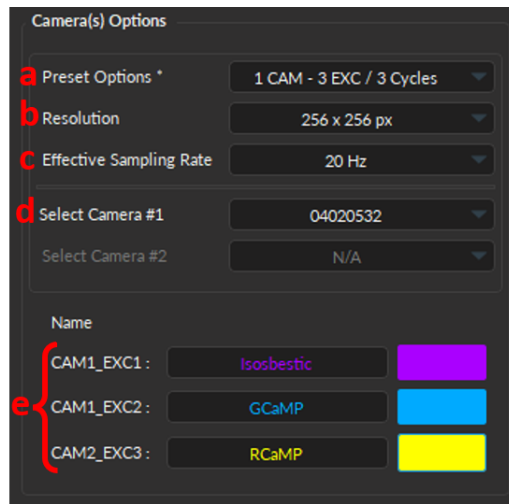

Figure 10.18: *BFMC Channel, Camera Options*
1. The **Camera(s) Options** (Fig. 10.18) defines which preset option to use and allows users to select the proper camera and camera parameters for the recording, such as:
- a) The **Preset Options** drop-down (Fig. 10.18, a) contains six pre-configured options which are listed in Table 10.2, along with their use cases.
- b) The **Resolution** drop-down (Fig. 10.18, b) sets the resolution (pixel x pixel) of the Image stack from which ROI(s) will be computed. There are six options, among which the lowest available *Image size* is 256 x 256, and the maximum is 1024 x 1024. Note that if the save **Image Stacks** option is enabled, using a large resolution will result in larger *.doric* data files.
- c) The **Effective Sampling Rate** drop-down (Fig. 10.18, c) sets the true frequency (in Hz) of each **EXC** since, when more than one excitation is used, the excitations are interleaved with one another, reducing the sampling rate by half (for 2 EXC) or by a third (for 3 EXC). Thus, the following **Effective Sampling Rate** are available according to the number of excitations:
- d) The **Select Camera #** drop-down (Fig. 10.18, d) sets which CMOS camera sensor will be labeled as **CAM1** and **CAM2** (if in use), by selecting the *Camera ID*.
- e) The **Name CAM# EXC#** (Fig. 10.18, e) allows users to label the specific **Camera excitations** with more intuitive name. This setting also lets users select the trace color for the data collected during the corresponding excitations.